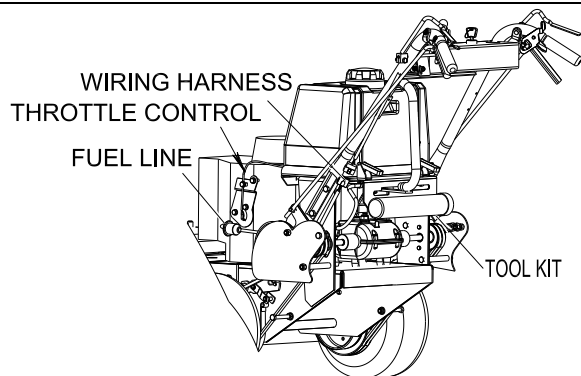

FIG 6
- Route the Throttle Cable next to Transmission and attach to engine according to Engine Operators Manual. Fuel Tank line connects to the fuel line of engine (the position of Fuel Filter and Throttle Cable Attachment are a bit different on different models of Engines.) The wiring harness and tool kit must be connected as in FIG 6.